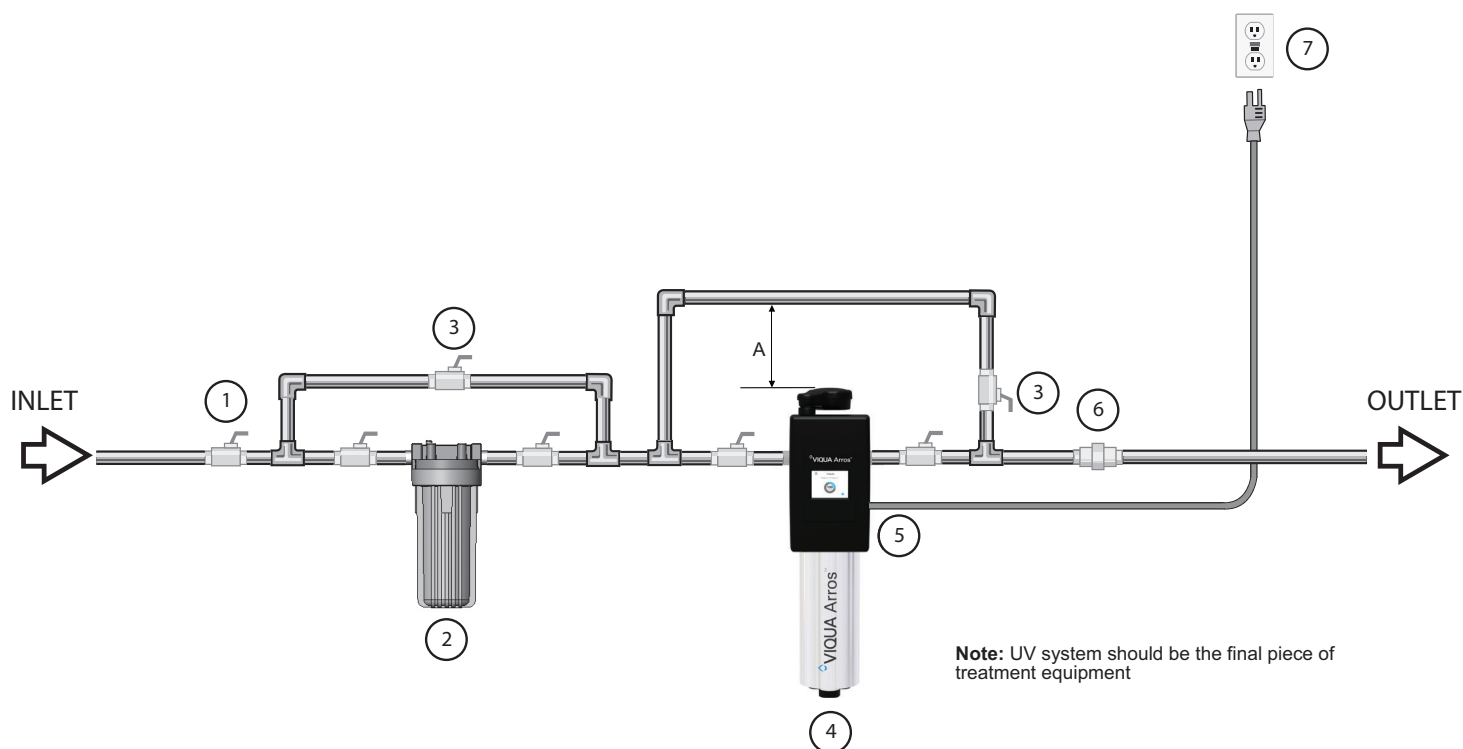

Figure 3 UV System
- Determine appropriate indoor location for the UV system. Refer to Figure 3.
- Make all necessary plumbing connections. Refer to Figure 3.
- Figure 3 shows the installation of a typical UV system and the related components that may be used for the installation. The use of a by-pass assembly is recommended in case the system requires “off-line” maintenance. In this case, note the system requires a supplementary disinfection for the distribution system if any water is used during by-pass condition. In addition, during by-pass, the water will NOT be disinfected and a “DO NOT CONSUME THE WATER” tag should be physically installed on the by-pass assembly until such time as the system is sanitized and returned to service. For more information, refer to Section 3.2. If the water is to be consumed while the system is off-line, the water must be boiled for twenty minutes prior to consumption.